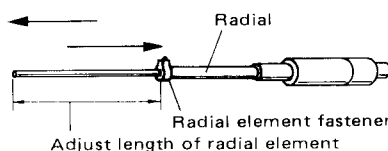

Fig. 5
2. Place transceiver in transmit at desired frequencies in each band, where you usually operate. While observing vswr or reflected power, adjust radial elements for lowest vswr or reflected power as shown in Fig. 5. Refer typical adjustment length of radial elements to Table 1.